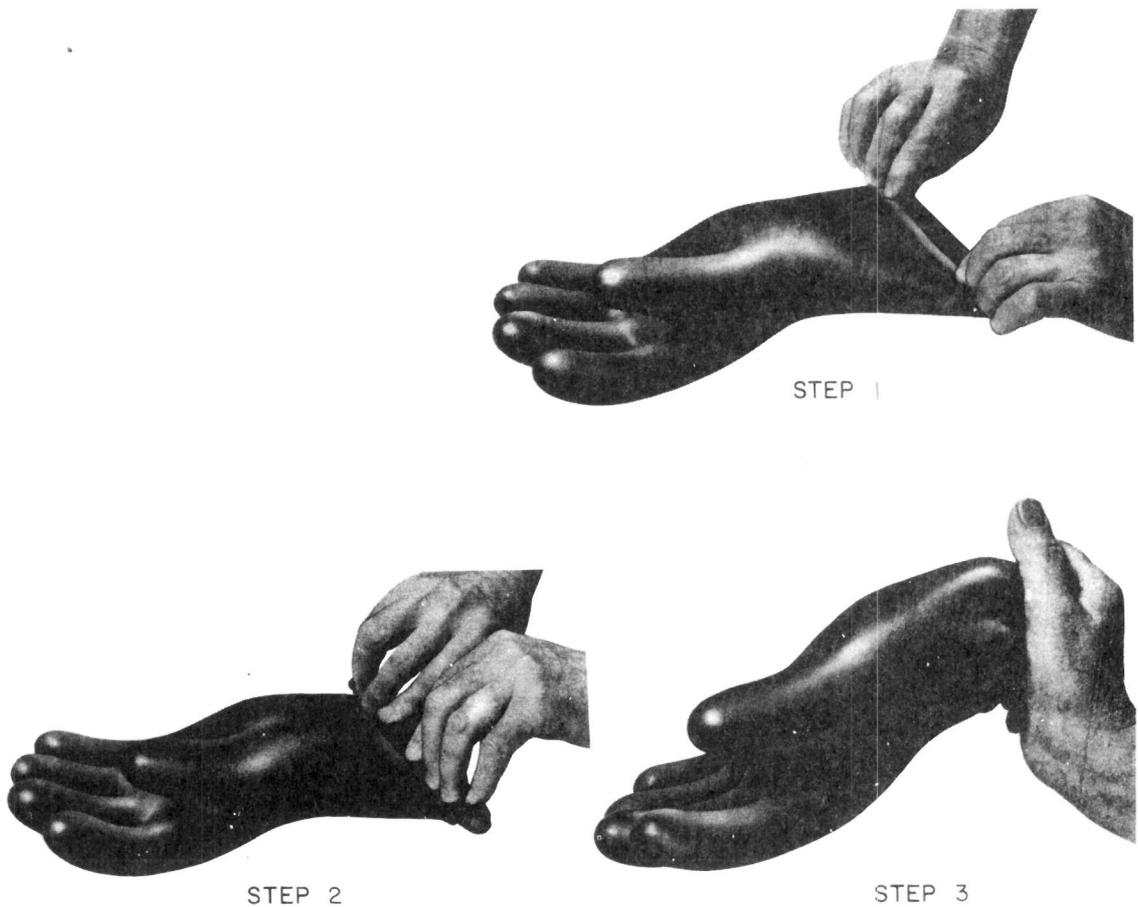

Fig. 6—Alternate Air Test
8.02 An alternate method (Fig. 6) to air test the insulating gloves can be performed in the following manner: